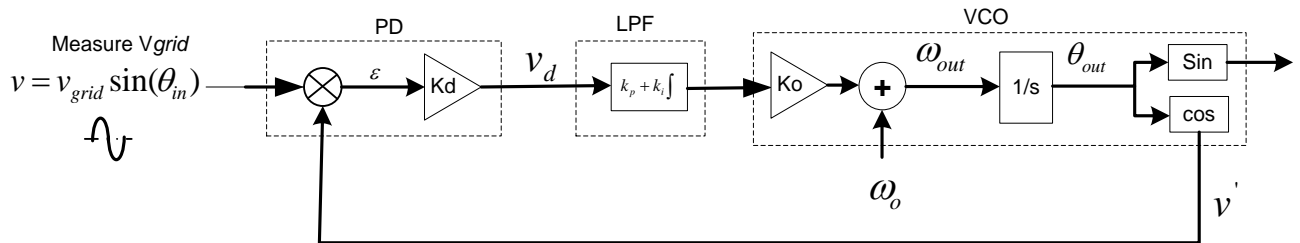

Figure 6 Phase Lock Loop Basic Structure
**Technical:** A functional diagram of a PLL is shown in the Figure 6, which consists of a phase detect(PD), a loop filter(LPF) and a voltage controlled oscillator(VCO)